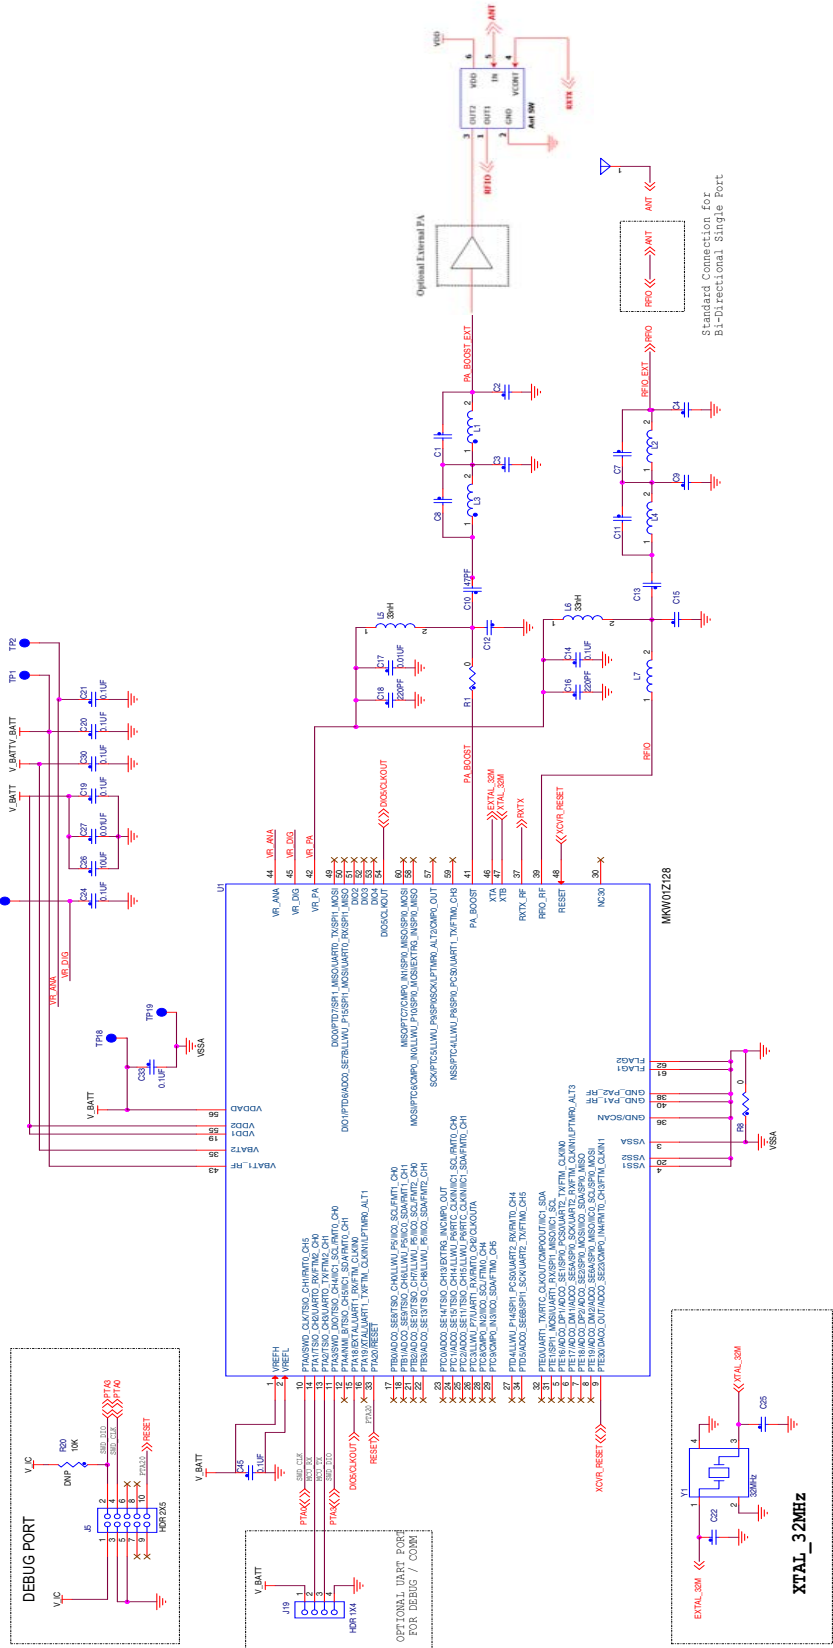

Figure 7. MKW01 Application Circuit Options
Figure 7 shows a MKW01 typical applications circuit with and without use of an external power amplifier (PA) (driven by the RF power boost feature). Note a number of circuit features:
Freescale also recommends that the transceiver RESET is driven by an MCU GPIO to provide total hardware control of the transceiver. Figure 7 shows GPIO PTE30 (preferred), but any GPIO can be used.
Two common RF wiring options are shown in Figure 7: